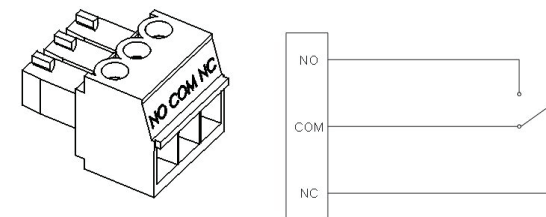

Figure 4 - Remote Contact Connections
3. Remote Annunciation: Electrically isolated Form C dry contacts provide remote monitoring capability. The removable plug accepts up to #16 AWG wire. The continuous current rating for the remote indicator is 1A @ 125 VAC maximum. Strip the wire 1/4" (7mm), and torque the terminal screw 1.8 lb-in (0.2 Nm). The terminal is labeled with Normally Open (NO), Normally Closed (NC) and Common (COM). Install signal wiring as shown in Figure 4.